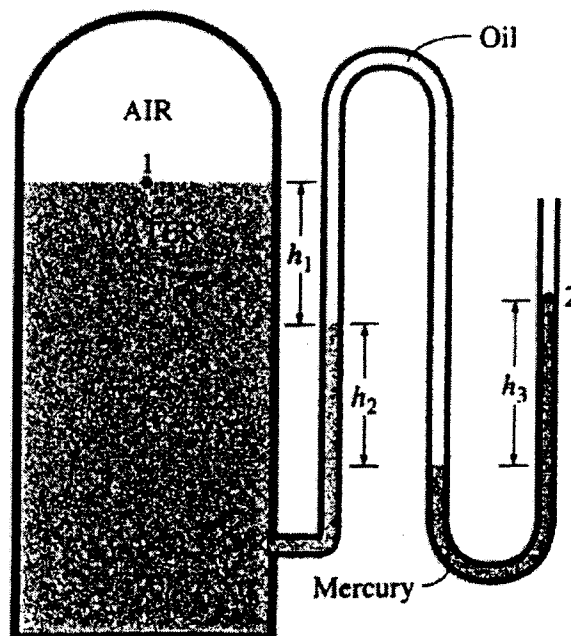

Figure Q2[b]
- [b] The water in a tank is pressurized by air, and the pressure is measured by a multi fluid manometer as shown in Figure Q2[b]. The tank is located on a mountain where the atmospheric pressure is 85 kPa. Determine the air pressure if $h_1 = 0.1$ m, $h_2 = 0.2$ m, and $h_3 = 0.35$ m. Take the density of oil, water and mercury to be 850 kg/m³, 1000 kg/m³ and $13,600$ kg/m³ respectively.